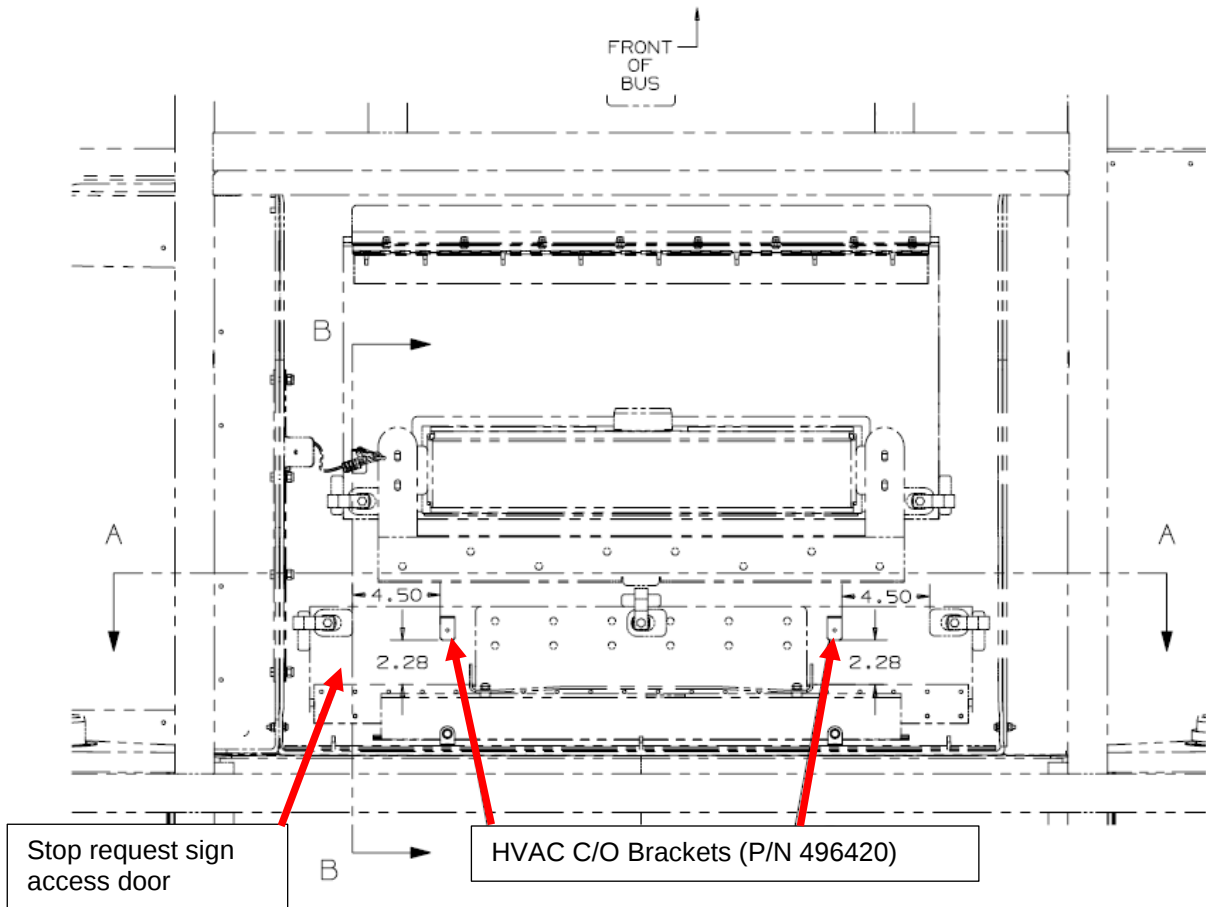

Figure 2 – View above stop request sign and HVAC center cover access doors (doors shown in closed position)
3. Position HVAC C/O Brackets (P/N 363132 x2, P/N 496420 x2) on the insides of stop request access sign door panel and HVAC center cover panel in accordance with Figures 2 and 3. Lightly trace around brackets to later assist in positioning during Plexus application.
4. Wipe down the bonding surfaces of HVAC C/O Brackets (P/N 363132 x2, P/N 496420 x2), stop request access sign door panel and center cover panel with a lint free cloth and Isopropyl Alcohol (P/N 134336). Let flash dry for a minimum of 5 minutes to a maximum of 60 minutes. Refer to Figures 2 and 3.
7. Clamp and secure HVAC C/O Brackets (P/N 363132 x2, P/N 496420 x2) in position on approximately 20 minutes. Ensure to wipe off excess Plexus squeeze out before curing. Refer to Figures 2 and 3.